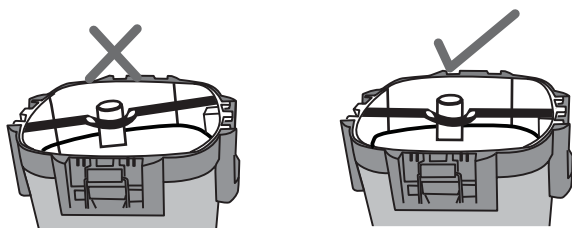

Fig 6
8. Ensure the filter media baskets are sitting flat on top of each other. Fig 6
8. And the minimum height is 10cm. Fig 6